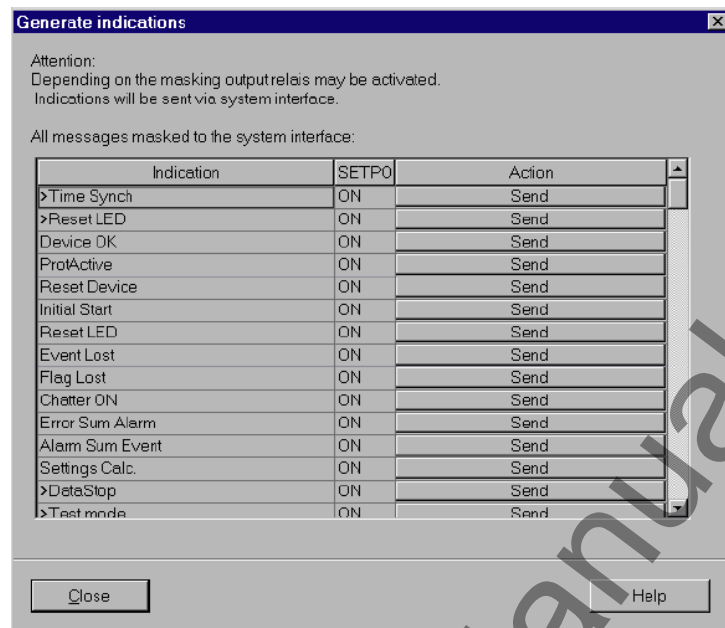

Figure 3-22 System interface test with dialog box: Generate indications — example
- Double-click on **Testing Messages for System Interface** shown in the list view. The dialog box **Generate Indications** is opened (see Figure 3-22).